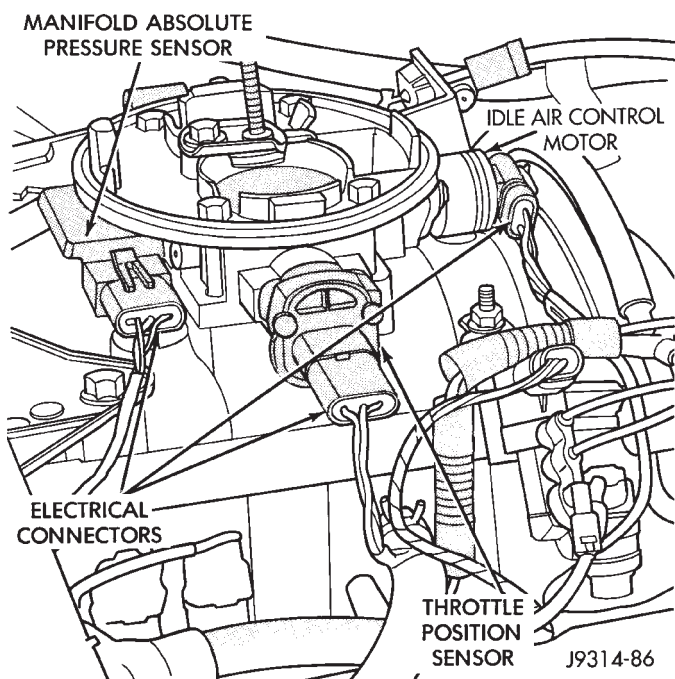
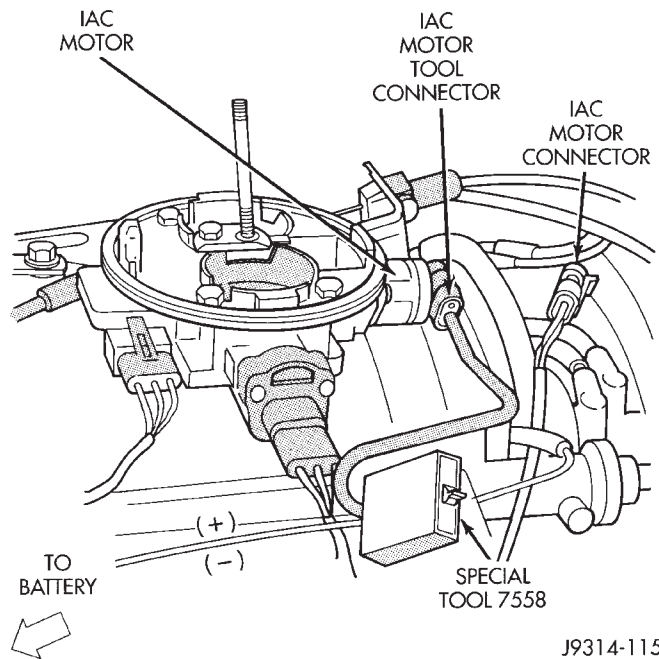

Fig. 23 IAC Motor
Fig. 24 IAC Motor Testing
To perform a complete test of IAC motor (Fig. 23) and its circuitry, refer to DRB II scan tool and appropriate Powertrain Diagnostics Procedures manual. To test the IAC motor only, special IAC motor exerciser tool number 7558 (Fig. 24) may be used.
(1) With the ignition OFF, disconnect the IAC motor wire connector at throttle body (Fig. 24).
(2) Plug the exerciser tool (7558) harness connector into the IAC motor (Fig. 24).
(3) Connect the red clip of exerciser tool (7558) to battery positive terminal. Connect the black clip to negative battery terminal. The red light on the exerciser tool will be illuminated when the exerciser is properly connected to battery.
(4) Start engine.